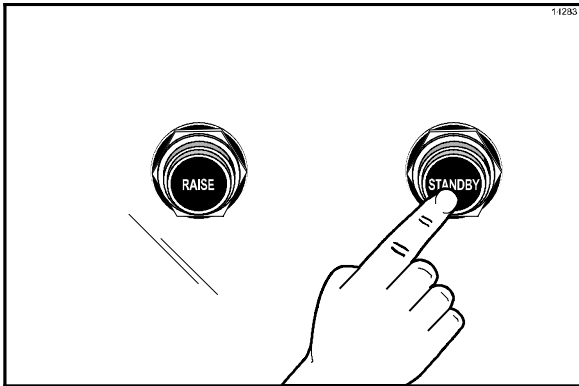

Figure 25
1. To place the upper platen in the STANDBY position, press the STANDBY button twice from the open position. (See Figure 25.)